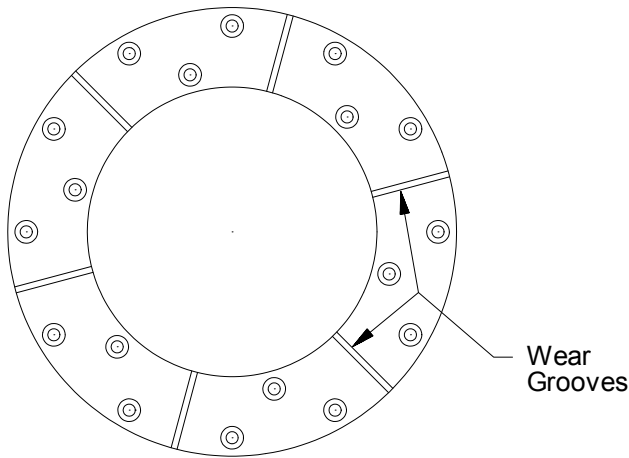
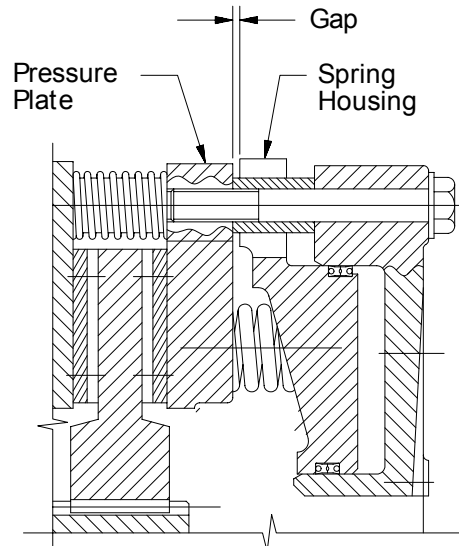

Fig. 4
Fig. 5
On single and dual disc units, the friction material must be replaced when worn to the bottom of the groove on the friction lining. See Figure 4. On dual disc brakes, however, a wear adjustment is required when the friction material is approximately one-half worn. To determine when adjustment is required, measure the gap between the spring housing (16) and the pressure plate (14) with the brake engaged, as shown on Figure 5. If the measured gap exceeds the limits shown on Table 5 AND none of the friction discs are worn to the bottom of the wear groove, adjust the brake per the following procedure.
Friction disc replacement is required when worn to the bottom of the wear groove, as indicated in Figure 4, or if oil or grease have contaminated the surface.